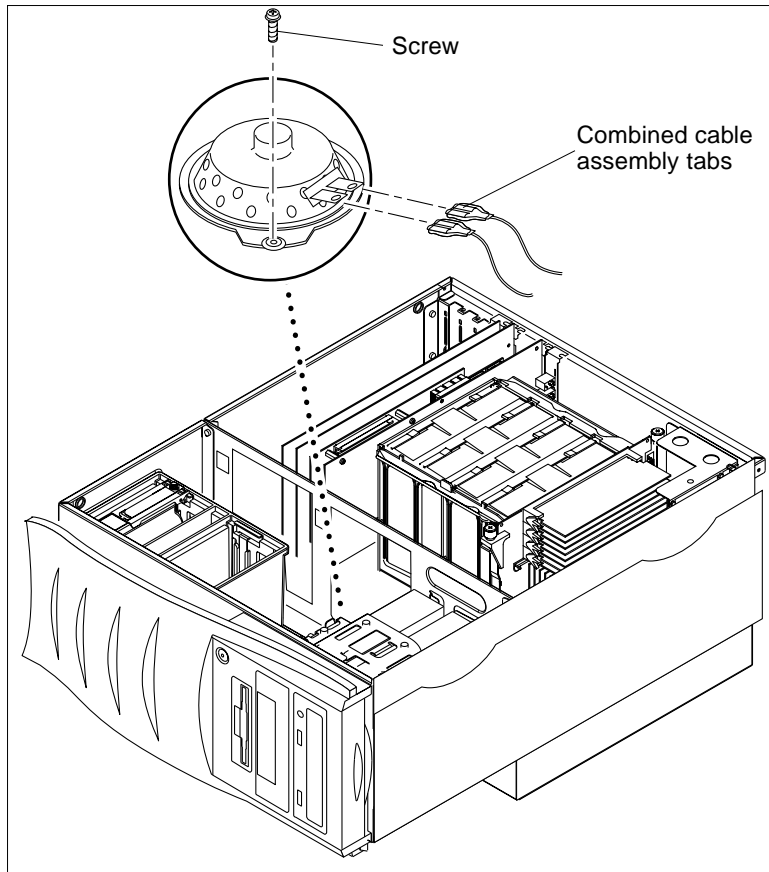

FIGURE 7-11 Removing and Replacing the Speaker Assembly
5. Remove the speaker assembly as follows (FIGURE 7-11):
1. **Replace the speaker assembly as follows (FIGURE 7-11):**